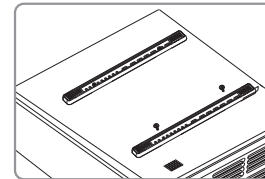
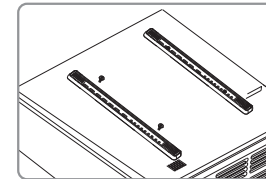

Figure 4
Figure 5
- If need, please loosen the screws on the main arm⑧ and subsidiary arm⑧a to extend the arms.
- Please follow figure 4 or figure 5 to install the multifunctional arm, because of different projectors. In addition, the multifunctional arm can be invisible from the projector.
- Put the main fixation⑦ on projector at the central gravity. Make sure the two ∩ holes on the main fixation⑦ locate at the both side.
- Before connecting GPC main bar③, please fasten the screws of main arm⑧ and subsidiary arm⑧a.